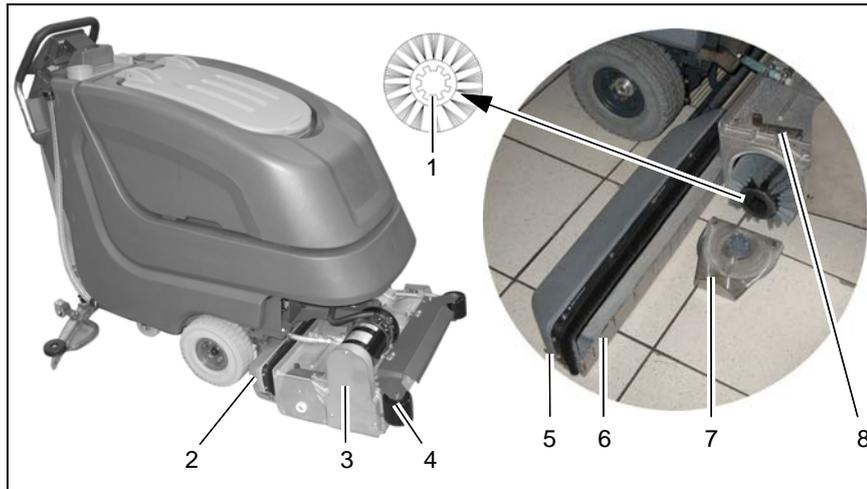

Fig.11
Clean dirt hopper (Fig. 11/2) at daily intervals or as required.
Remove dirt hopper from the right machine side (seen in direction of travel). Use quick-release (Fig. 11/5) to loosen feed inlet (Fig. 11/6) and clean dirt hopper.
1. Release brush seating (Fig. 11/7) by locking lever (Fig. 11/8).
1. Insert brush into brush head and let it catch (brush tothing (Fig. 11/1)) as to point to the outside).
Check deflector rollers (Fig. 11/4) at weekly intervals and replace if required.